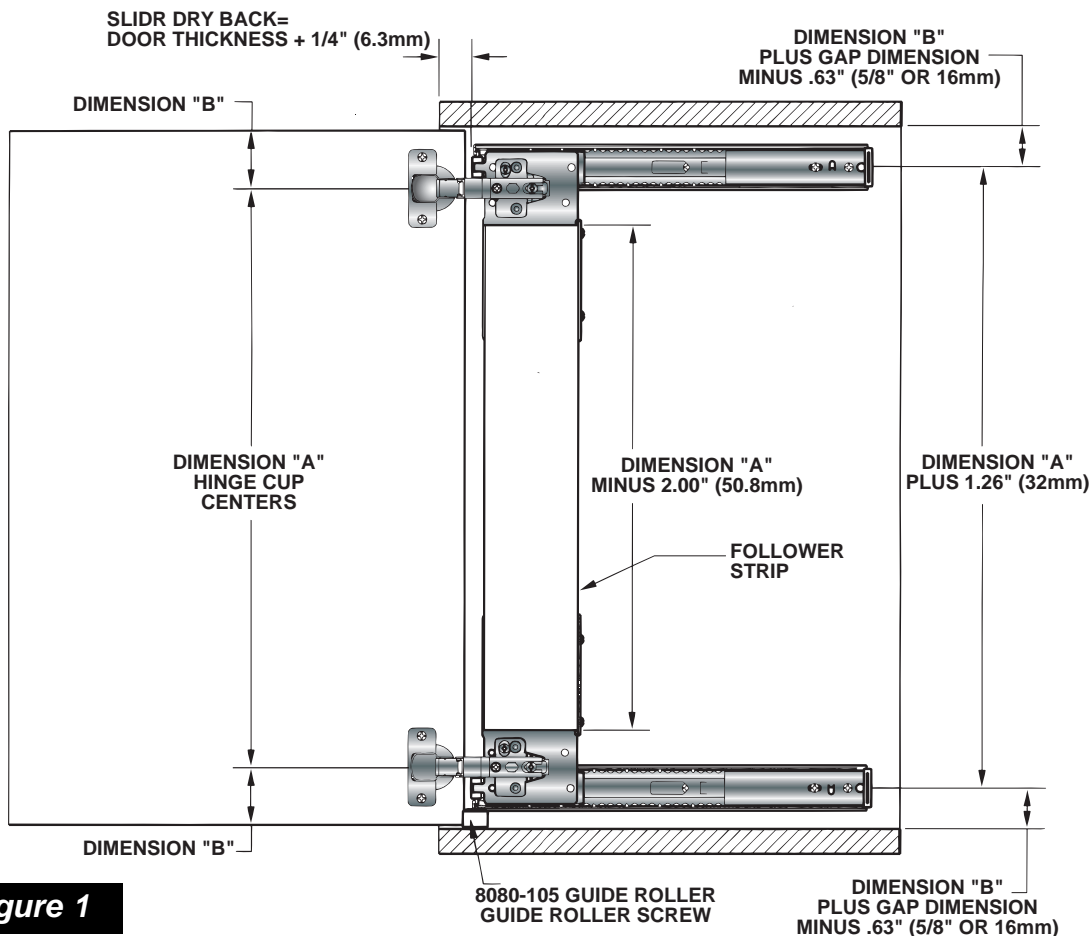

figure 1
- Cut a follower strip 2 3/4" to 3" wide, x 1/2" minimum thickness. Size the length 2" less than hinge cup centerline distance (dimension A as shown on figure 1 & 2).
- Centralize slide and follower strip assembly into case, keeping each slide center line to edge of case distance equal to dimension B (figure 1 & 2) plus suggested gap dimension of 1/8" minus 5/8" allowance for hinge offset.